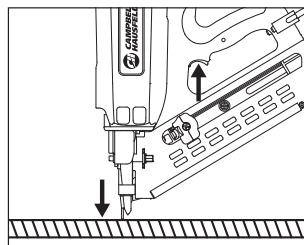

Figure 15
3. **REMOVE** finger from the trigger. Depress the WCE by placing nose of tool against a solid surface and depressing the nose as you would for normal use. Pull the trigger. The tool **MUST** actuate (see Figure 15).